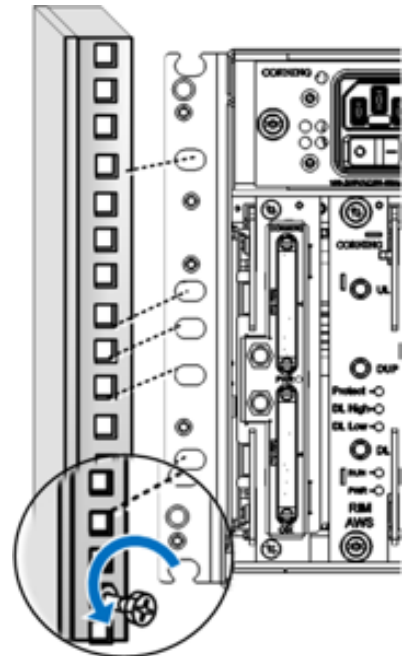

Figure 1: Installing Chassis in Rack
Step 2: Referring to Figure 1, secure the units' rack ears to the rack frame as follows: